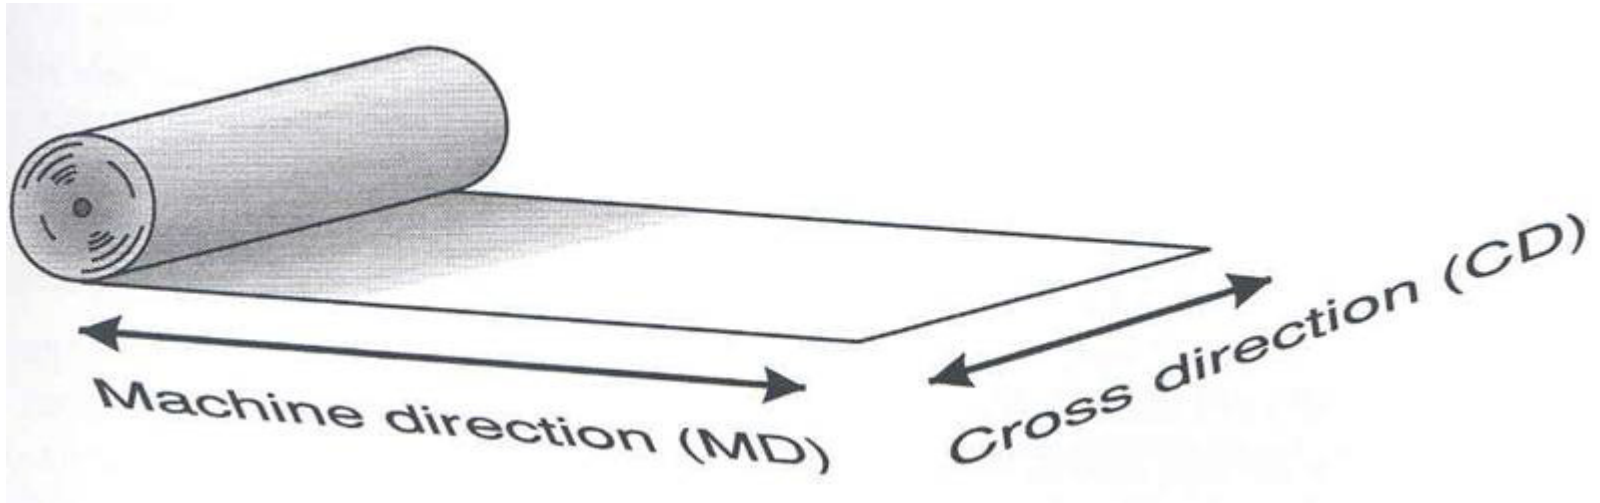

Figure 3.7 Fibers in a manufactured paper sheet tend to align themselves in the machine direction
Depositing a fiber-and-water slurry onto a moving wire belt tends to align fibers in the direction of travel, known as the machine direction (MD). The direction across the papermaking machine and across the fiber alignment is the cross direction (CD) (Figure 3.7). Because of this fiber alignment, paper is an anisotropic material; measured properties differ depending on the direction in which the property is measured.